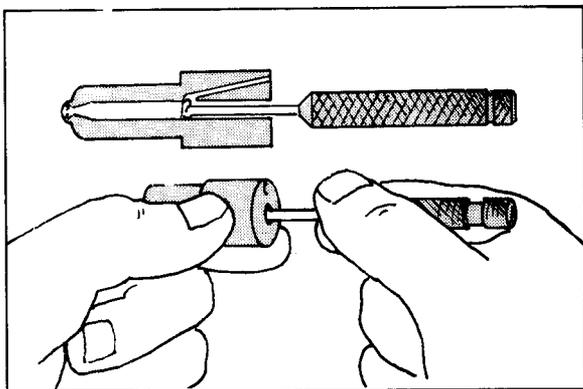

Figure 7-6
2. Clean nozzle tip with a scraper (Figure 7-6).